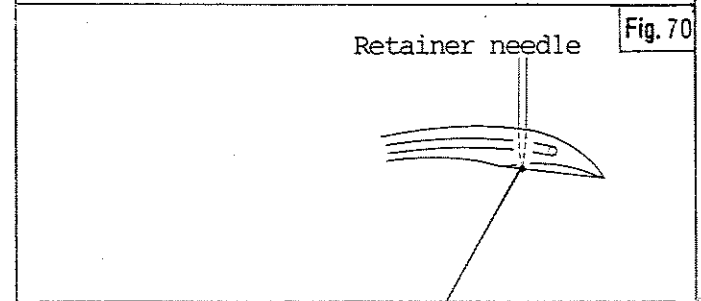

Fig.70
### LOOPER THREAD TAKEUP ADJUSTMENT(Fig. 70)
- As shown in Fig.70, ⑩ should be installed so that Stop Screw ⑫ comes to the center of the ring opening.